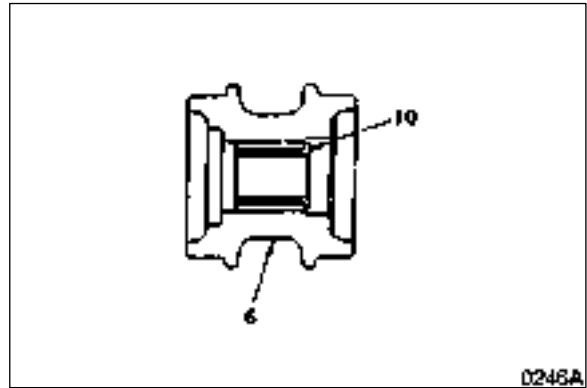

Figure 47
1. Degrease, clean and dry all parts before reassembly. Insert bushing (10, Figure 47) into the roller (6).